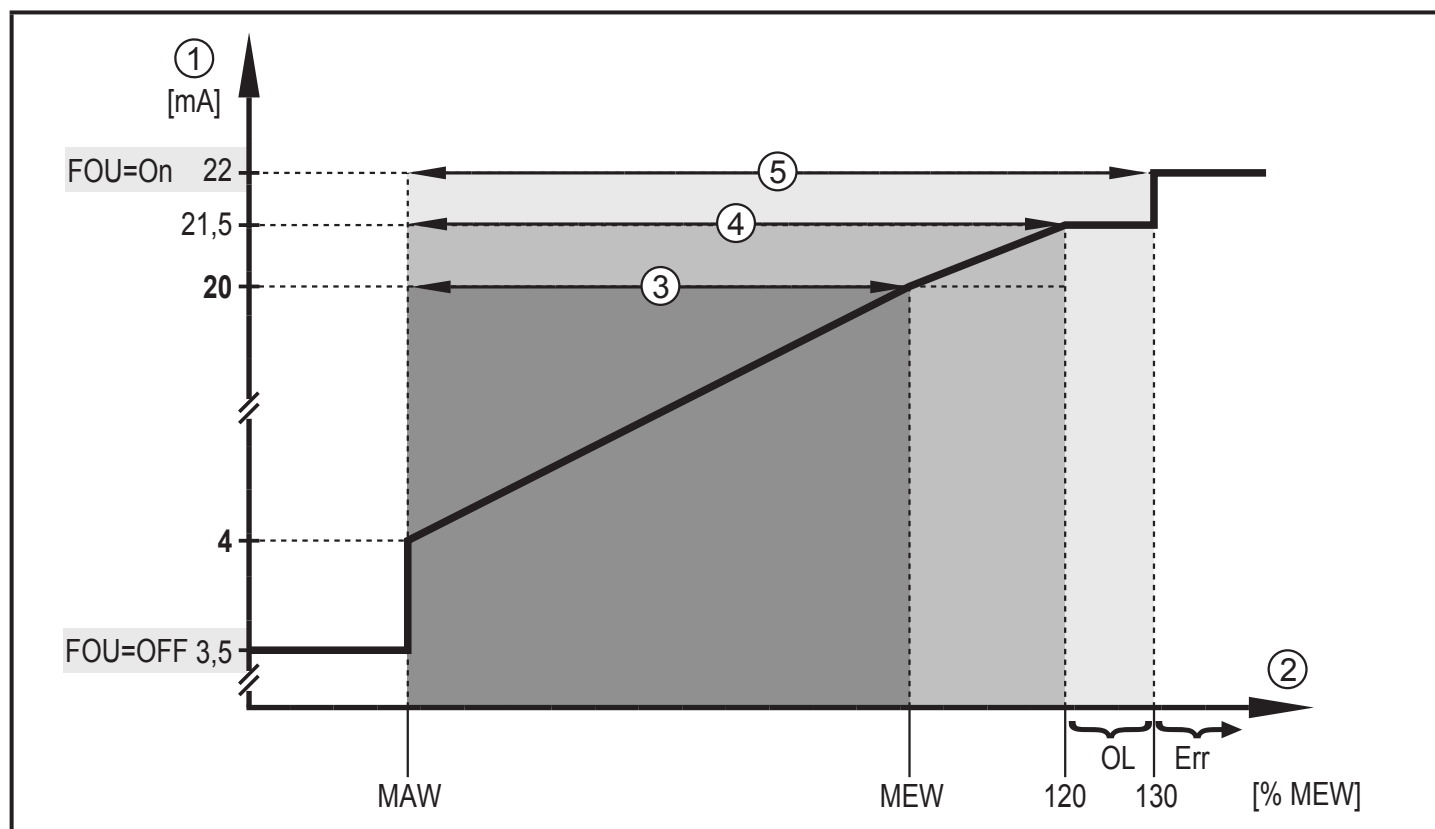

Figure 1
- If the measured value is outside the measuring range or in the event of an internal error, the current signals indicated in Figure 1 and 2 are provided.